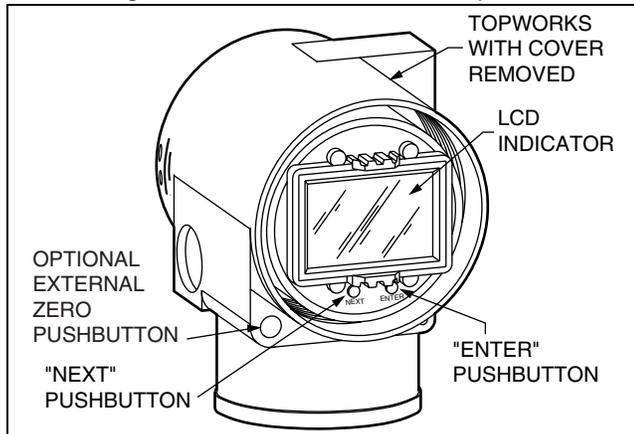

Figure 17. LCD Indicator with Pushbuttons
### Zero and Span Adjustments (Figure 17)
**Standard Liquid Crystal Display (LCD) Indicator with On-Board Pushbuttons (Figure 17)**
**Optional External Zero Adjustment (Figure 17)**